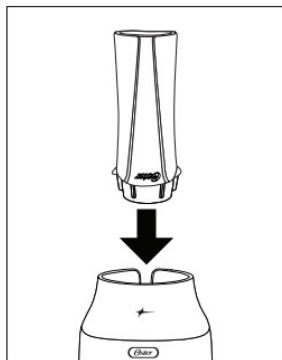

Figure 5
5. Place the assembled cup onto the motor base. (Figure 5)